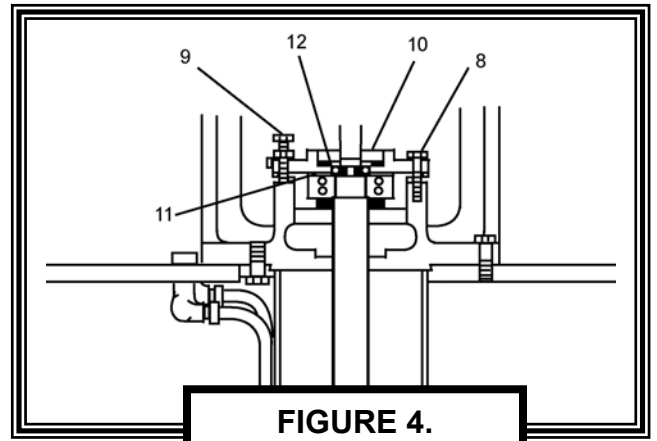

FIGURE 4.
- 8) Remove bearing shell bolts and slide the bearing shell assembly from the bearing housing. (See Figure 4.)